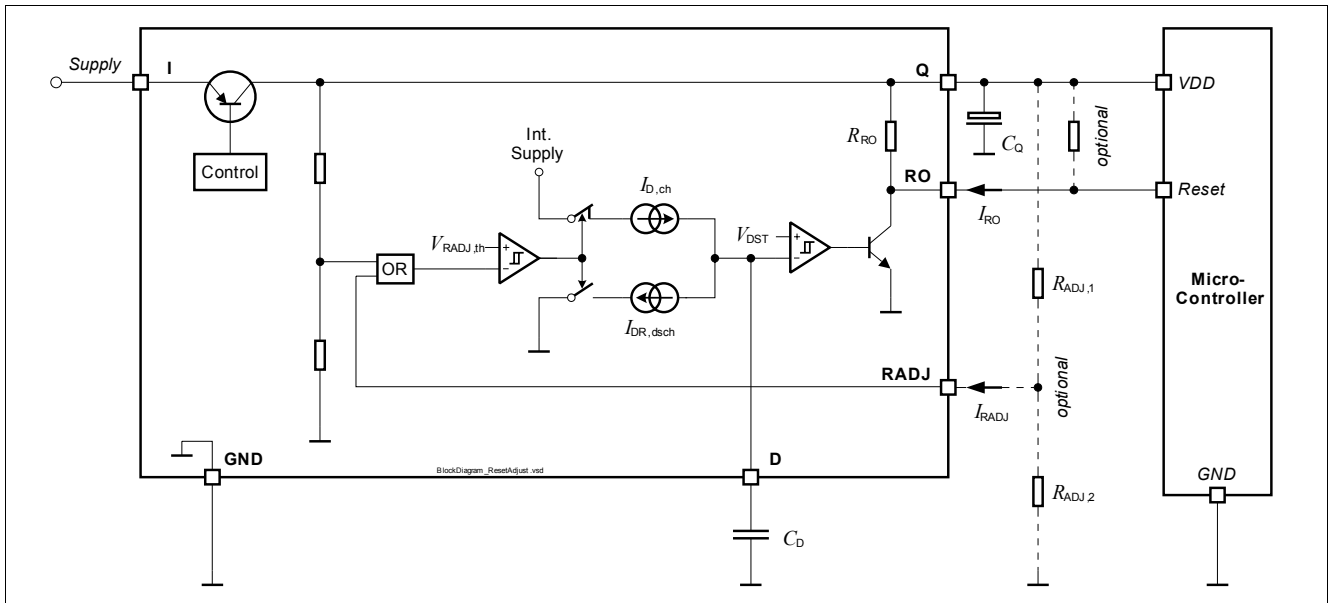

Figure 7 Block Diagram Reset Circuit
- $R_{ADJ,1}$ ,  $R_{ADJ,2}$ : Resistors of the external voltage divider, see Figure 7.
all voltages with respect to ground, direction of currents as shown in Figure 7 (unless otherwise specified).
all voltages with respect to ground, direction of currents as shown in **Figure 7** (unless otherwise specified).